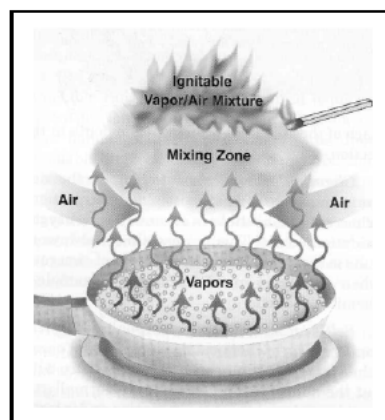

Figure 1.9: Fuel gases generated from heat mix with air, producing an ignitable mixture
- Heat causes pyrolysis / decomposition (vaporisation of solid and liquid fuels), resulting in the production of ignition vapours or gases, as shown in Figure 1.9